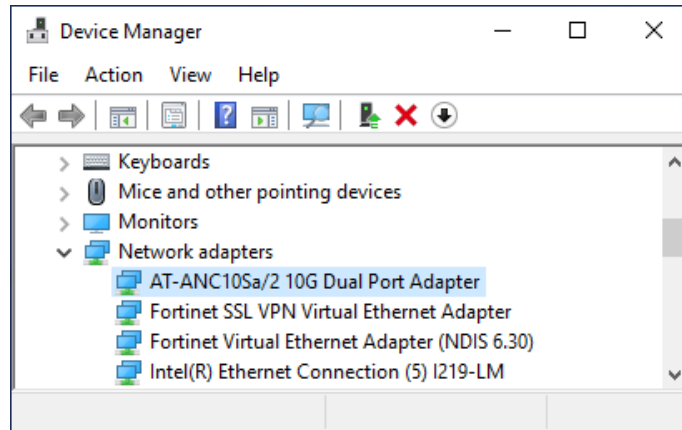

Figure 21. Device Manager Window - Network Adapters
3. Double-click **AT-ANC10Sa/2 (or AT-ANC10T/2) 10G Dual Port Adapter**. Refer to Figure 21.